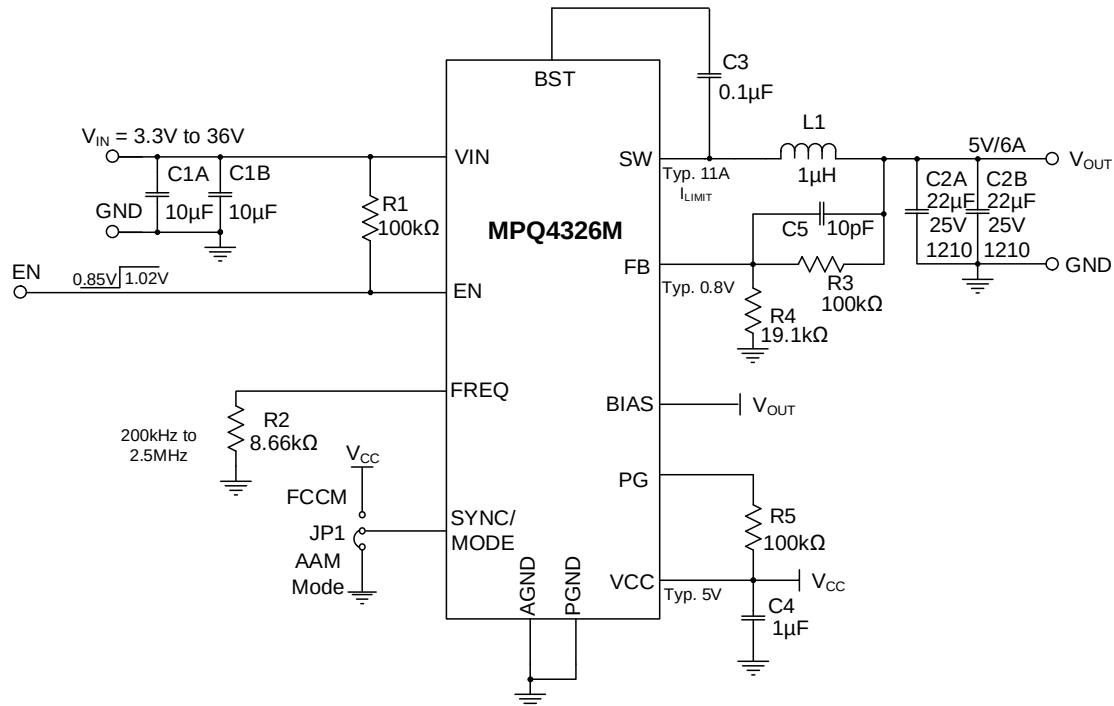

Figure 11: Typical Application Circuit ($V_{OUT} = 5V$, $f_{sw} = 2.2MHz$)
- 15) The recommended PCB layout is based on Figure 11 on page 42.